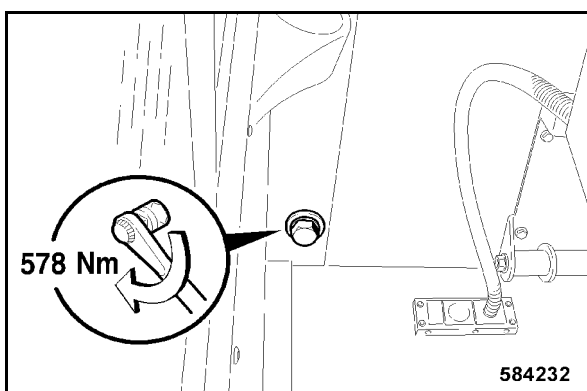

Fig. 213
- Tighten the rear inside fastening screw on the right hand side with 578 Nm (Fig. 213).